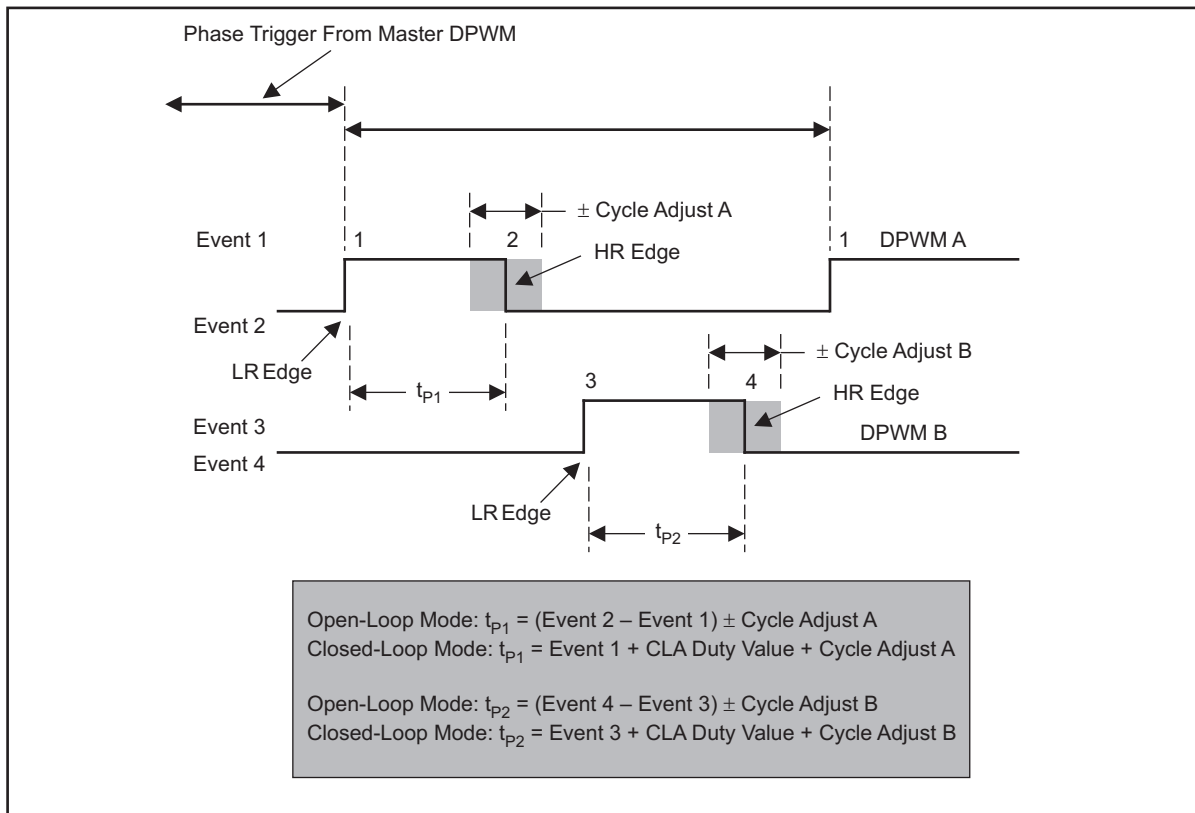

Figure 11. Multi-Output Mode – DPWM Timing Diagram
- While applying a –ve cycle adjust to DPWM B, the minimum on-pulse width (calculated value of  $t_{p2}$  in Figure 11) should be limited to 0. A –ve value for the DPWM B on-pulse width is not valid.